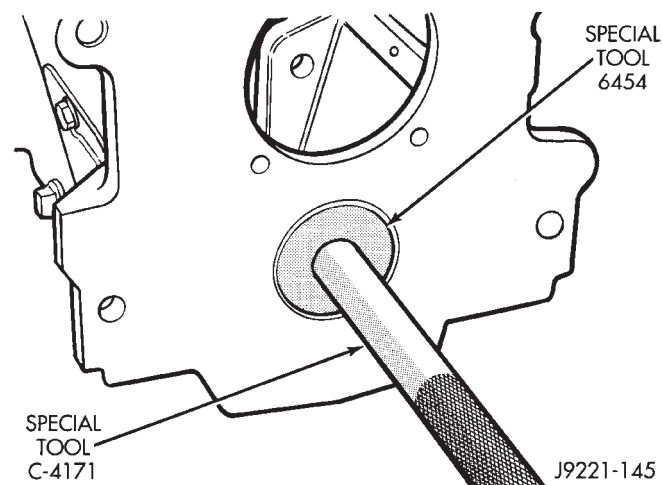

Fig. 57 Countershaft Front Bearing Cup Removal
(2) Remove countershaft front bearing cup with Remover Tool 6454 and Tool Handle C-4171 (Fig. 57).